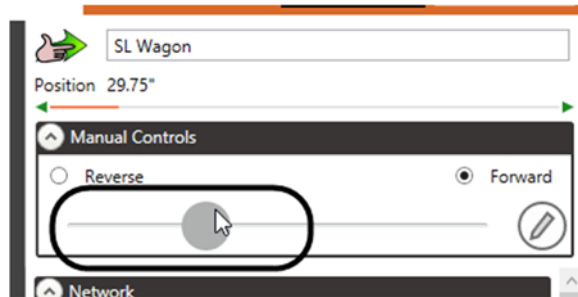

Figure 125
4. In the **Manual Controls** section of the **Stagehand Editing Pane** (Figure 125) run the motor forward or reverse as far as you safely can.